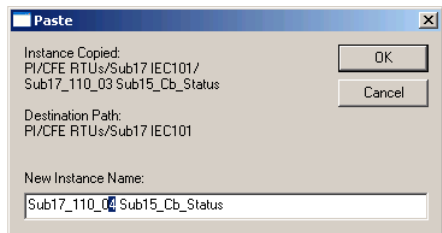

Figure 1-2.21: Renaming the Instance on Pasting
3. A dialog box appears: Rename the instance, click **OK** (Figure 1-2.21).